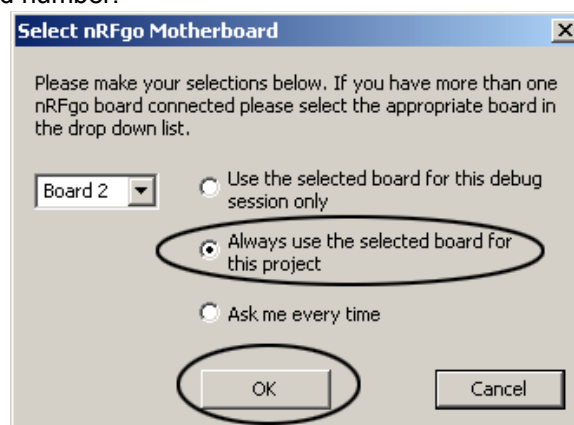

Figure 24. Selecting which nRFgo board to use for your project
12. The first time you attempt to program an nRFgo module you will be prompted about which nRFgo Motherboard you want to use. See Figure 24. on page 20. Make sure that an nRFgo Motherboard and an nRF24LE1 module are plugged into the computer.